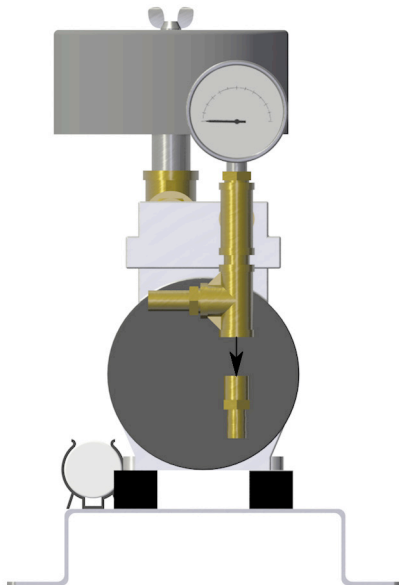

Figure 12: Step 1 Removal of hose barb
- Step 1:** Remove the hose barb from the air unit, if supplied with one. (See Figure 12)